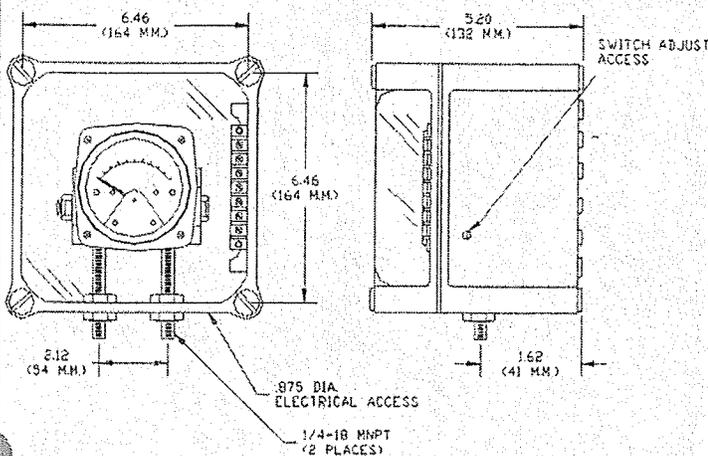

FIGURE 6
Access the terminal strip by removing the cover from the enclosure and loosening the (4) screws. Insert wires through an appropriate weatherproof connector (not supplied) into the enclosure and connect to the terminal strip. See the terminal strip diagram shown below or on the outside of the switch enclosure. Reinstall the cover and (4) screws (See Figures 6 & 7).